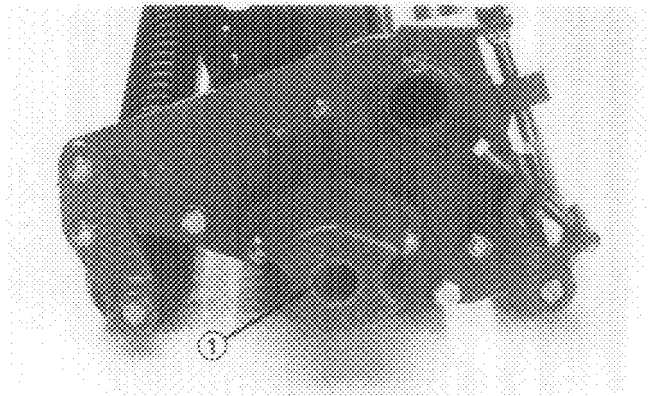

Figure 16
INSTALL REEL SPEED SENSOR (Fig. 16–17)
1. Remove the (2) nuts securing the counterweight to the left end of the left front (#4) and left rear (#2) cutting units and remove counterweights (Fig. 16).